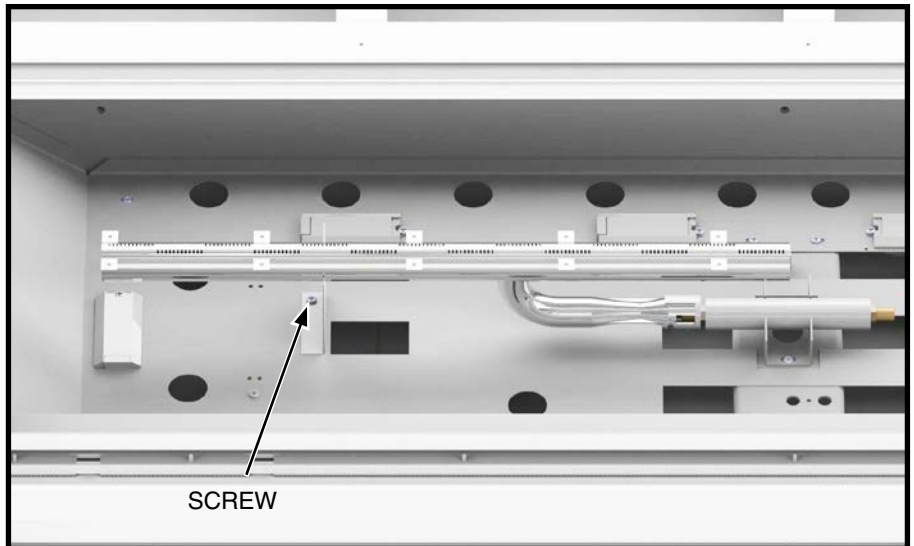

Figure 72: Installing first of two burners.
5. Place the first burner as shown in Figure 72. Be sure to engage the venturi fully onto the orifice. Secure with single screw in burner support leg. Repeat with other burner.